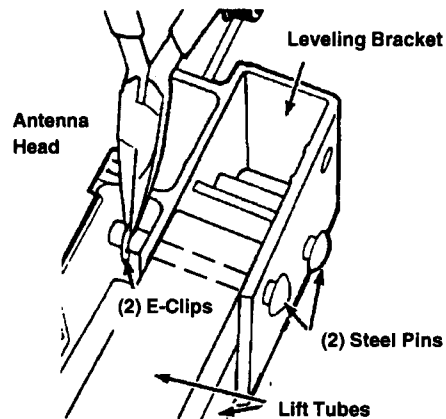

FIGURE 2
**STEP 5:** Attach antenna head to lift tubes with two (2) steel pins as shown in Figure 2. Align holes in leveling bracket on back of antenna head with holes in lift tubes, insert pins and secure in place with (2) E-clips. **Use pliers and get a firm grip on E-clips.** Fit clips into groove on pins and snap into place.